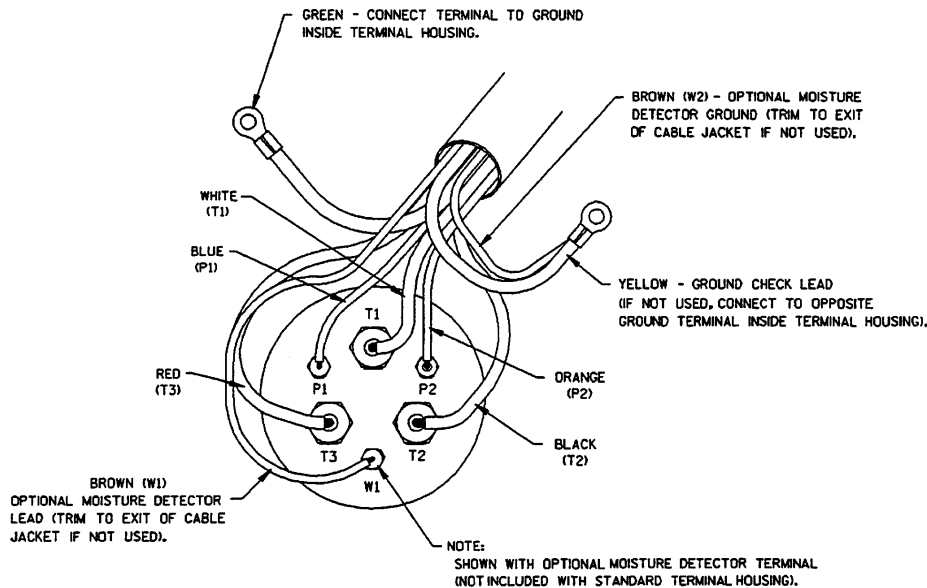

Figure 6. Terminal Housing Wiring Connections
If the terminal ends were removed for replacement, crimp a new terminal on each power cable lead. Slide a length of heat-shrink tubing (10 and 27) up over each of the power cable leads. Insert the standard power cable leads into the large terminal collars (24), and secure them with the setscrews (25). Insert the control leads into the small terminal collars (12) and secure them with the setscrews (11). The tubing must cover the crimped part of the terminals and extend up the leads far enough to ensure a good seal. See Figure 6 for wiring connections.